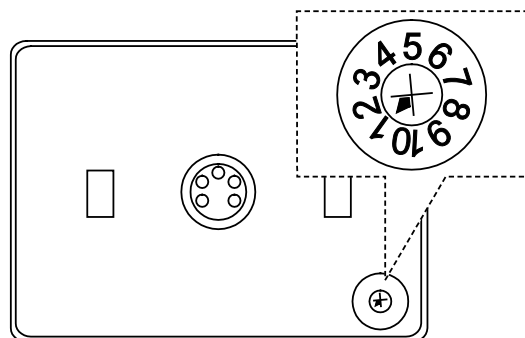

Fig. 6: Addressing
1. In the case of IR control element 6066-..., set the desired address first – see Fig. 6.